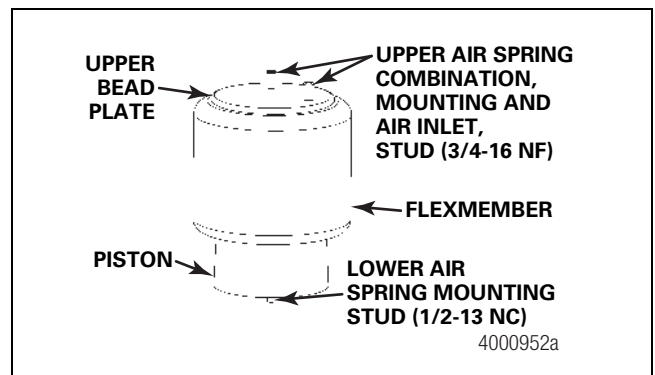

Figure 9.24
5. Check for leaks in the air lines, at the air spring upper bead plate, piston and mounting studs. Figure 9.24. Replace leaking air lines, fittings or air springs.